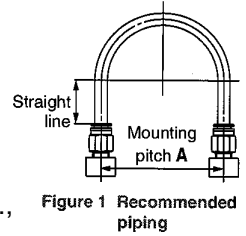

Figure 1 Recommended piping
1. When connecting piping to the one-touch fitting, use pipe length with sufficient margin, in accordance with the piping conditions shown in Figure 1.